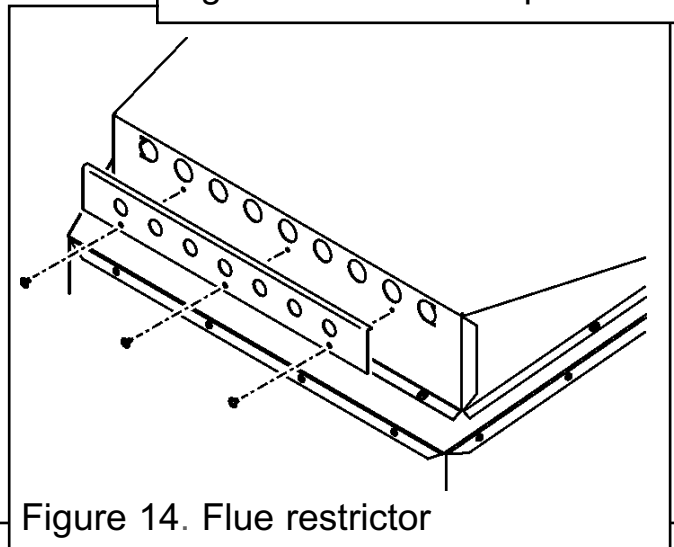

Figure 14. Flue restrictor
5. This appliance is supplied with a flue restrictor for use where the flue draught is excessive. There may however, be certain circumstances where fitting the restrictor causes the fire to fail the spillage test. In such cases the restrictor will have to be removed. After removal conduct the spillage check again. The restrictor is packed loose with the appliance and is fixed with three No.8 x 3/8" tapping screws (See figure 14).